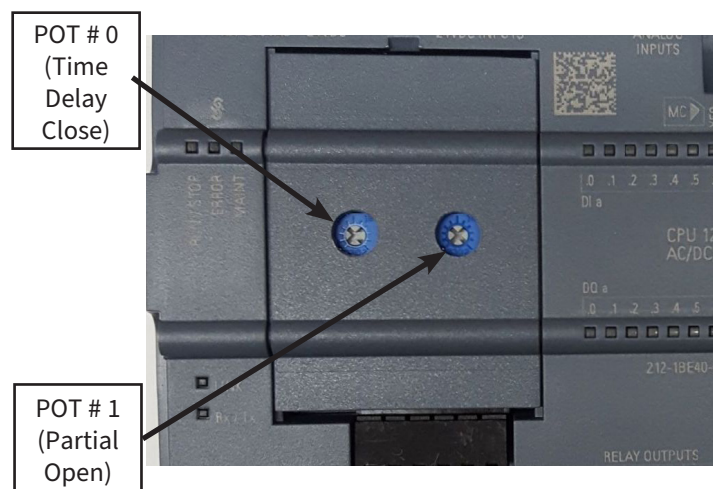

Figure 23: PLC Cover
2. With the power "OFF", manually operate the door to the fully open and fully closed positions and verify the limit switches activate as the cam passes by. Confirm that the switches are being tripped by the cam (Figures 23 & 24).
6. The limits have been set short at the factory. Adjust the limits for the final position of the door. Adjusting for the closed position: Moving the left limit switch assembly to the left will allow more door travel to the left for a R.H. door panel. (The opposite would apply for a L.H. door.) The door will stop prior to reaching the fully closed position or stop. Slide switch assembly as needed for final door panel positioning. Tighten two 1/4 – 20 screws on switch assembly (Figures 23 & 24).